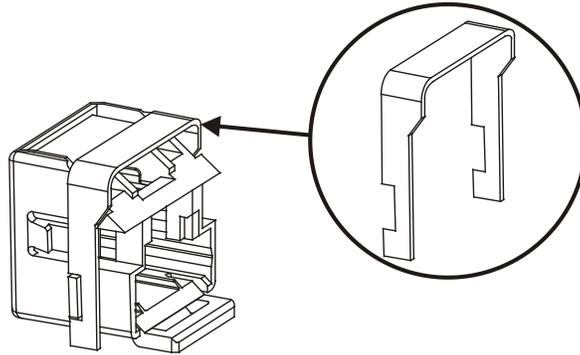

Figure 4 — Retention Clip Shown on Module
3. Punch down the eight conductors of the cable onto the information outlet by following the outlet installation instructions. Clip a retention clip (48 included) near the jack opening such that the triangular cuts and the rectangular cuts in the plastic clip align with the proper features on the module. This clip helps prevent the modules from rotating in their openings. Figure 4 shows the location of a retention clip on a module.